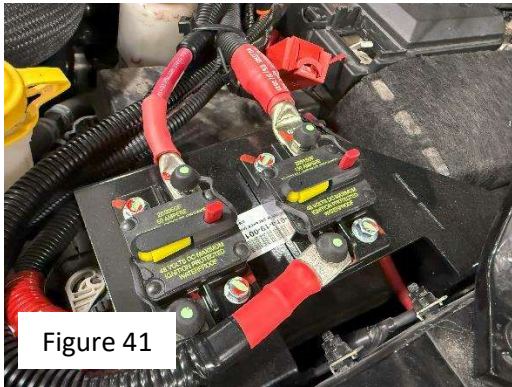

Figure 41
49. Return 60A breaker to closed state (Figure 41)